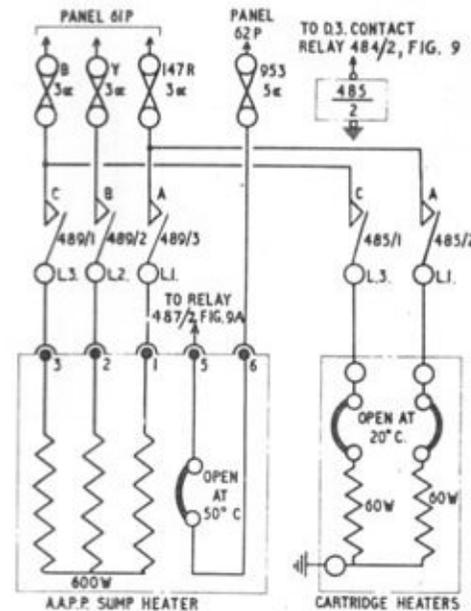

Fig.10 Sump and cartridge heaters
48. Contacts 484/2 will open to de-energise relay 485 (fig.10) and switch off the cartridge heaters, and contacts 484/1 will close to energise relay 393 via contacts 2 - 5 of the A.A.P.P. voltage pick-up unit (fig.5). Contacts 393/1 will then close to initiate field flashing of the A.A.P.P. alternator (para.63).
56. Contacts 484/2 will open to de-energise relay 485 (fig.10) and, switch off the cartridge heaters, and contacts 484/1 will close to energise relay 393 via contacts 2 - 5 of the A.A.P.P. voltage pick-up unit (fig.5). Contacts 393/1 will then close to initiate field flashing of the A.A.P.P. alternator (para.63).